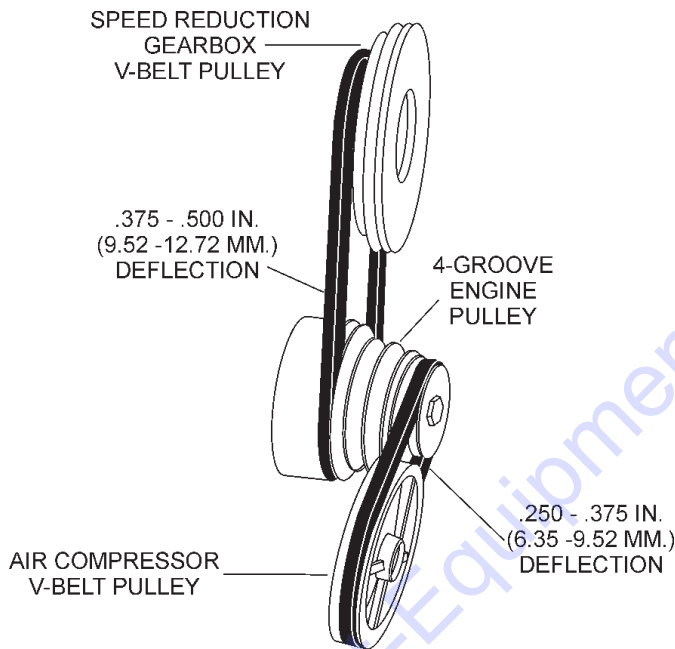

Figure 34. V-Belt Check
3. Check the **air compressor** V-belt tension (Figure 34) by pushing midway through the two pulleys. The V-belt deflection should be between .250 to .375 inches (6.35 to 9.52 mm).
4. Check the **speed reduction gearbox** V-belt tension (Figure 34) by pushing midway through the two pulleys. The V-belt deflection should be between .375 to .500 inches (9.52 to 12.72 mm).